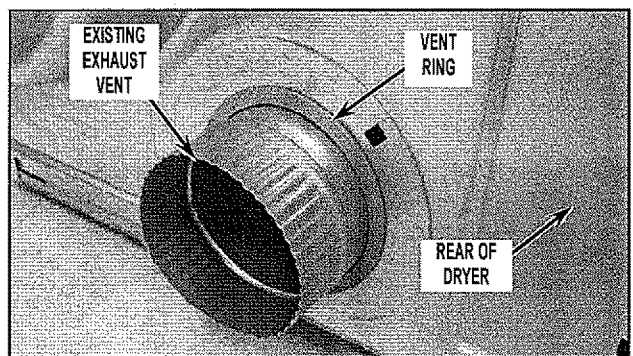

FIGURE 19
21. Remove the vent ring by depressing the three (3) tabs on the ring allowing you to push it out away from dryer rear panel. See *Figure 19*.